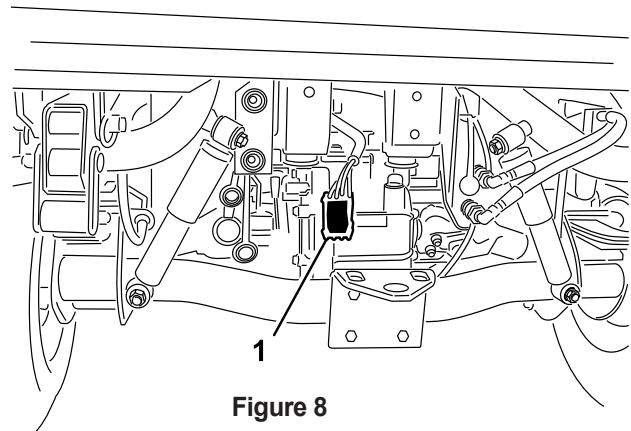

Figure 8
5. Route the wire harness to the rear of the vehicle (Figure 8).